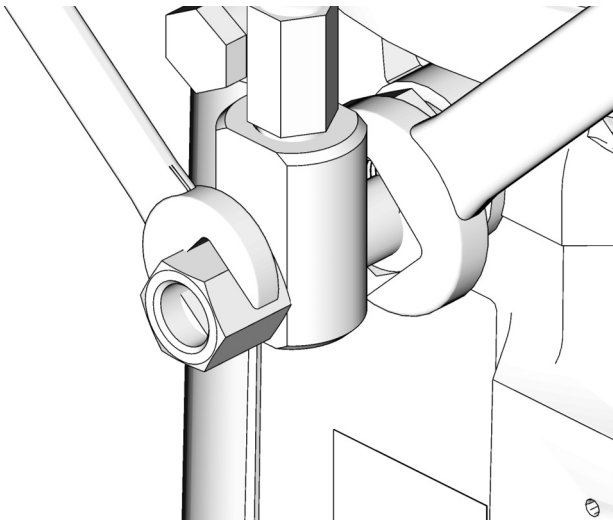

FIG. 10
- Always use two wrenches working in opposite directions when connecting anything to pump element or auxiliary fittings. See FIG. 10 for an example.